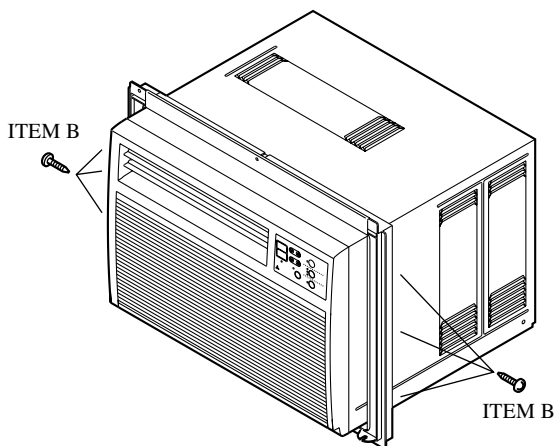

FIG. 2
- 1** Insert the sliding panels (ITEM H) into the guides of the air conditioner. Fasten the curtains to the unit with screws (ITEM B), as shown in FIG. 2.